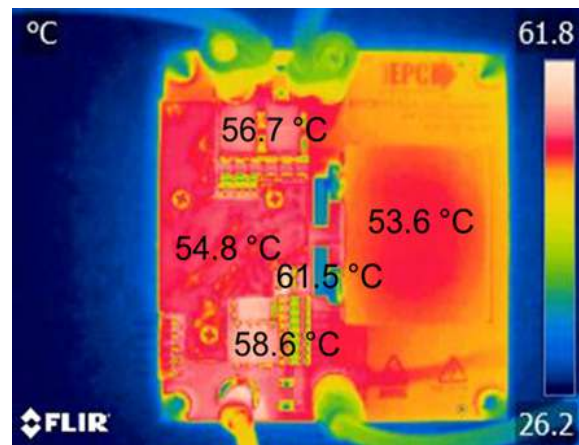

Figure 12: Thermal image of the EPC9153 operating at 56 V_{IN} , 20 V and 12.5 A output, thermal steady state
As shown in Figure 12, the EPC9153 board with the heat-spreader installed measures a temperature rise of less than 40 °C at full load operation without any forced air.
2. With power off, connect the load to VOUT+ and VOUT- as in Figure 12.